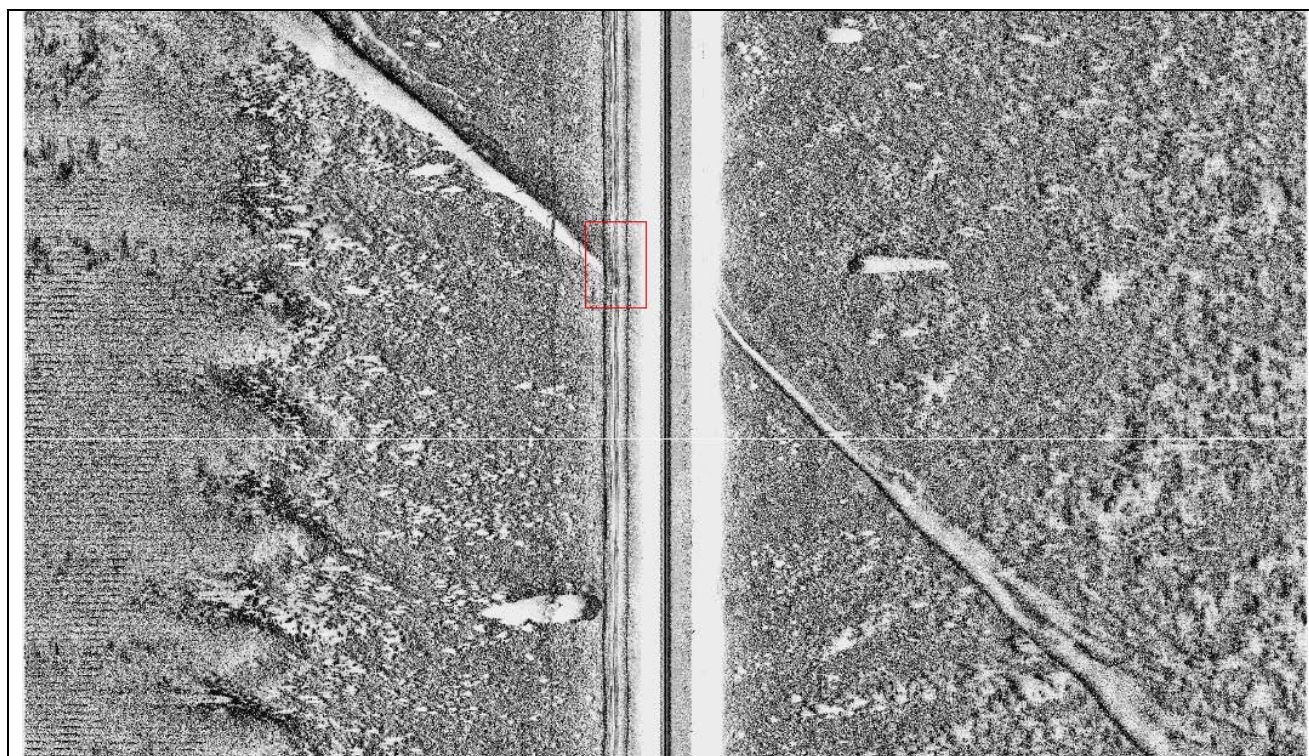
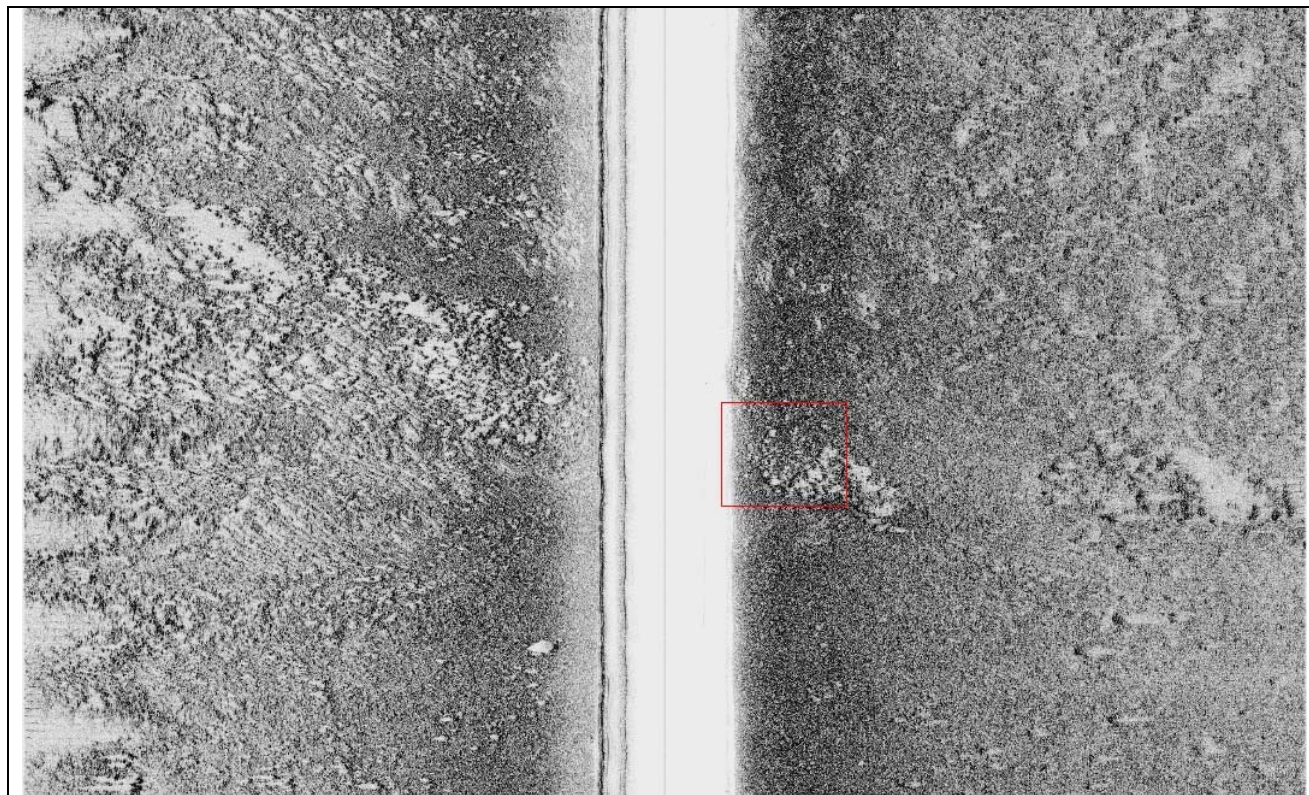

Figure 8. Sidescan image of line GR15E. The red box represents the position of anomaly 79.
Figure 9. Sidescan image of line DK60. The red box represents the position of anomaly 1.
2. The sidescan images reveal considerable information about the seabed and its constituents. Using a high transmission frequency channel (380kHz) with a very narrow horizontal beam angle enables a detailed scan of the sea bottom and the low grazing angle (angle between the seabed and the acoustic axis) enhance the shadowing effect which in-turn make objects look much clearer. This makes the visual inspection of the sidescan record an interesting and important part of the work in such projects. Because of the dense survey lines (25m spacing) the survey swath of the sidescan instrument was put to 50m and that gives a very high overlap which was exploited to look at different objects from different aspect angles or to compensate for bad signal in one of the channels. Figures (8 & 9) show two examples of the sidescan images, the red box in the figures indicates the exact location of the magnetic anomaly which correspond to that survey line. The images reveal clearly the resolution power of the sidescan survey. An elongated feature is shown in Fig.(8) which could indicate a pipe and an accumulation of aggregates can be noticed in both Fig.8 and Fig.9 which is a clear indication of a seabed full with stones and mixed sediments.